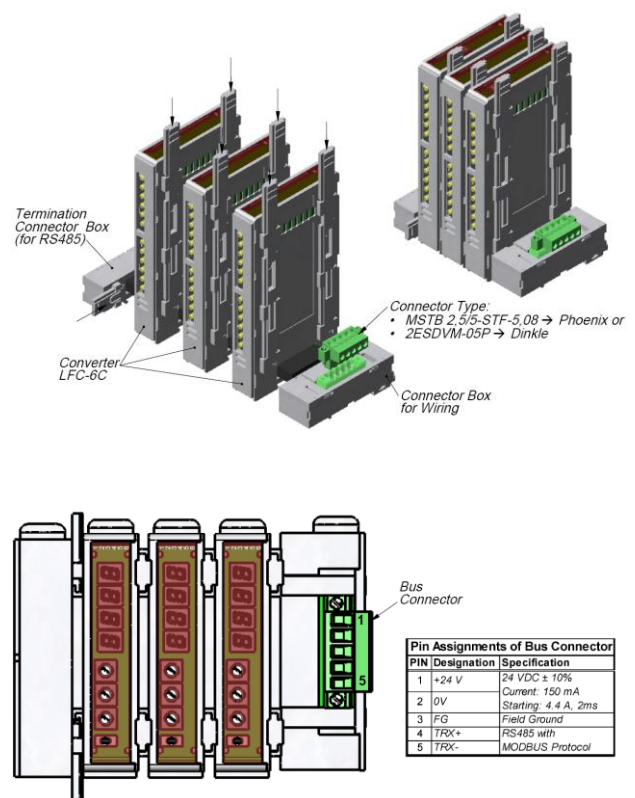

Figure 9: Mounting and stacking concept for converter LFC-6C
3. Attach the necessary wires (AWG 14-26) according to the pin specifications in *Figure 9*. Strip the sheath approximately 3mm from the wires end. Insert the core into the connector up to the end and tighten the screw. Confirm that the wires are securely fixed by pulling it by hand.
3. Bring the fixation bars in to un-lock position (see *Figure 9*).
6. Attach the termination box (*Figure 11a*) and fix it by pushing the fixation bars of the termination box (see *Figure 11b* and *Figure 9*) to the inside.
7. Bring the fixation bars into the locked position (see *Figure 9* and *Figure 11b*)